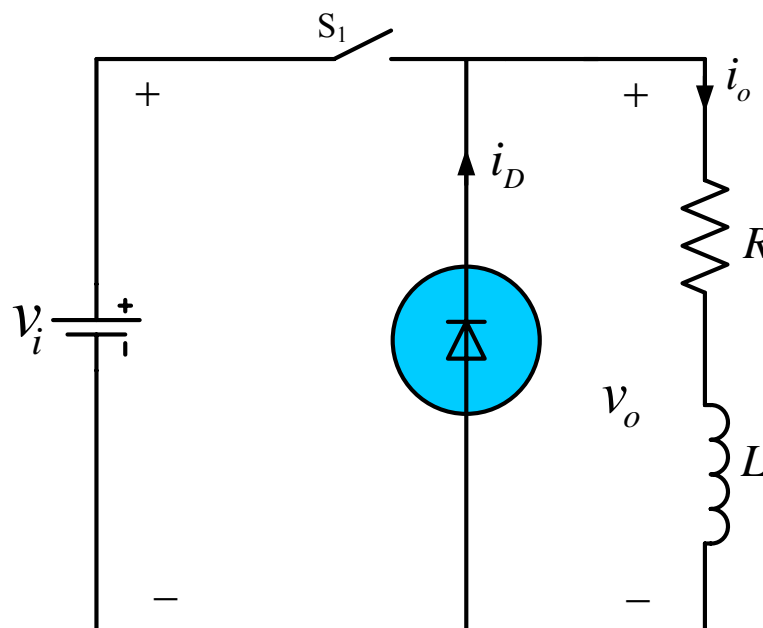

Figure 9-1 DC chopper with RL-Load
The circuit diagram of a step down chopper is shown in Fig. 9-1. The performance parameters of the chopper are given by:
1. Run the simulation of Fig 9-1 and complete the Table 9-1 for three values of load resistances and $L_{42} = 22.3\text{mH}$ for $k = 0.5$.
Run the simulation of Fig 9-1 and complete the Table 9-2 for different values of duty cycle. Comment on the effects of duty-cycle on the load current ripple ΔI_L . Use R(H11) and L(L42).